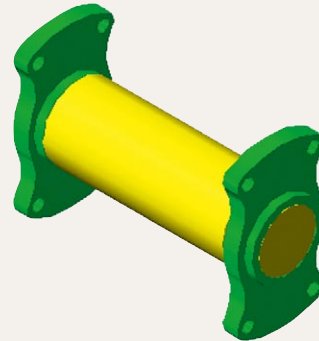
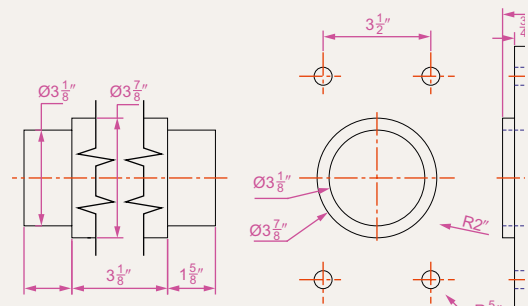

Fig. 10.27 Exercise 2 – a rendering of the holders and roller
Fig. 10.28 Exercise 2 – details of the parts of the holders and roller
2. Fig. 10.27 is a rendering of a roller between two end holders. Fig. 10.28 gives details of the end holders and the roller in orthographic projections.